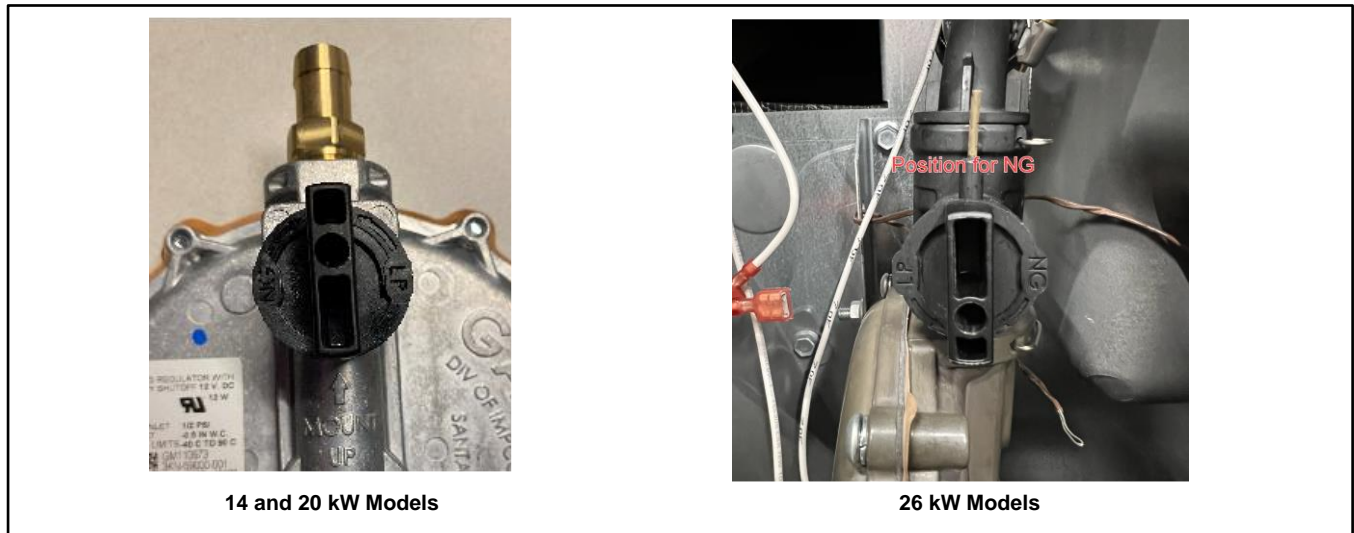

Figure 18 Knob Position, NG
- a. For natural gas (NG), turn the selection knob all the way clockwise. The knob lines up with the UP arrow on the regulator body as shown in Figure 18.